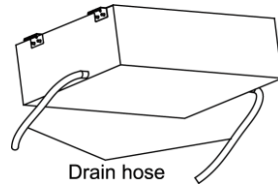
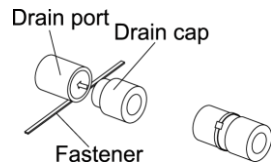

Fig. 4.23
Fig. 4.25
- (1). Use a suitable drain hose, and see Table 3.3 for its size.
- (2). There is a drain port on both the left and right sides. Select the drain port to match the local conditions (Fig. 4.23).
- (3). When the unit is shipped from the factory, the drain port is defaulted to be the one on the left side (electric box side), the port on right side has been plugged.
- (4). When using the drain port on the right side of the unit, reinstall the drain cap to the left side drain port (Fig. 4.25).